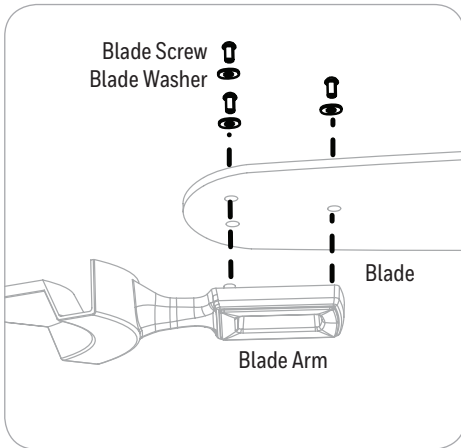

Figure 5.4
4. Partially insert the blade screws along with blade washer through blade and into the blade arm. Tighten each blade screw starting with the one in the middle. Repeat this step for the remaining blades and blade arms (Figure 5.4).